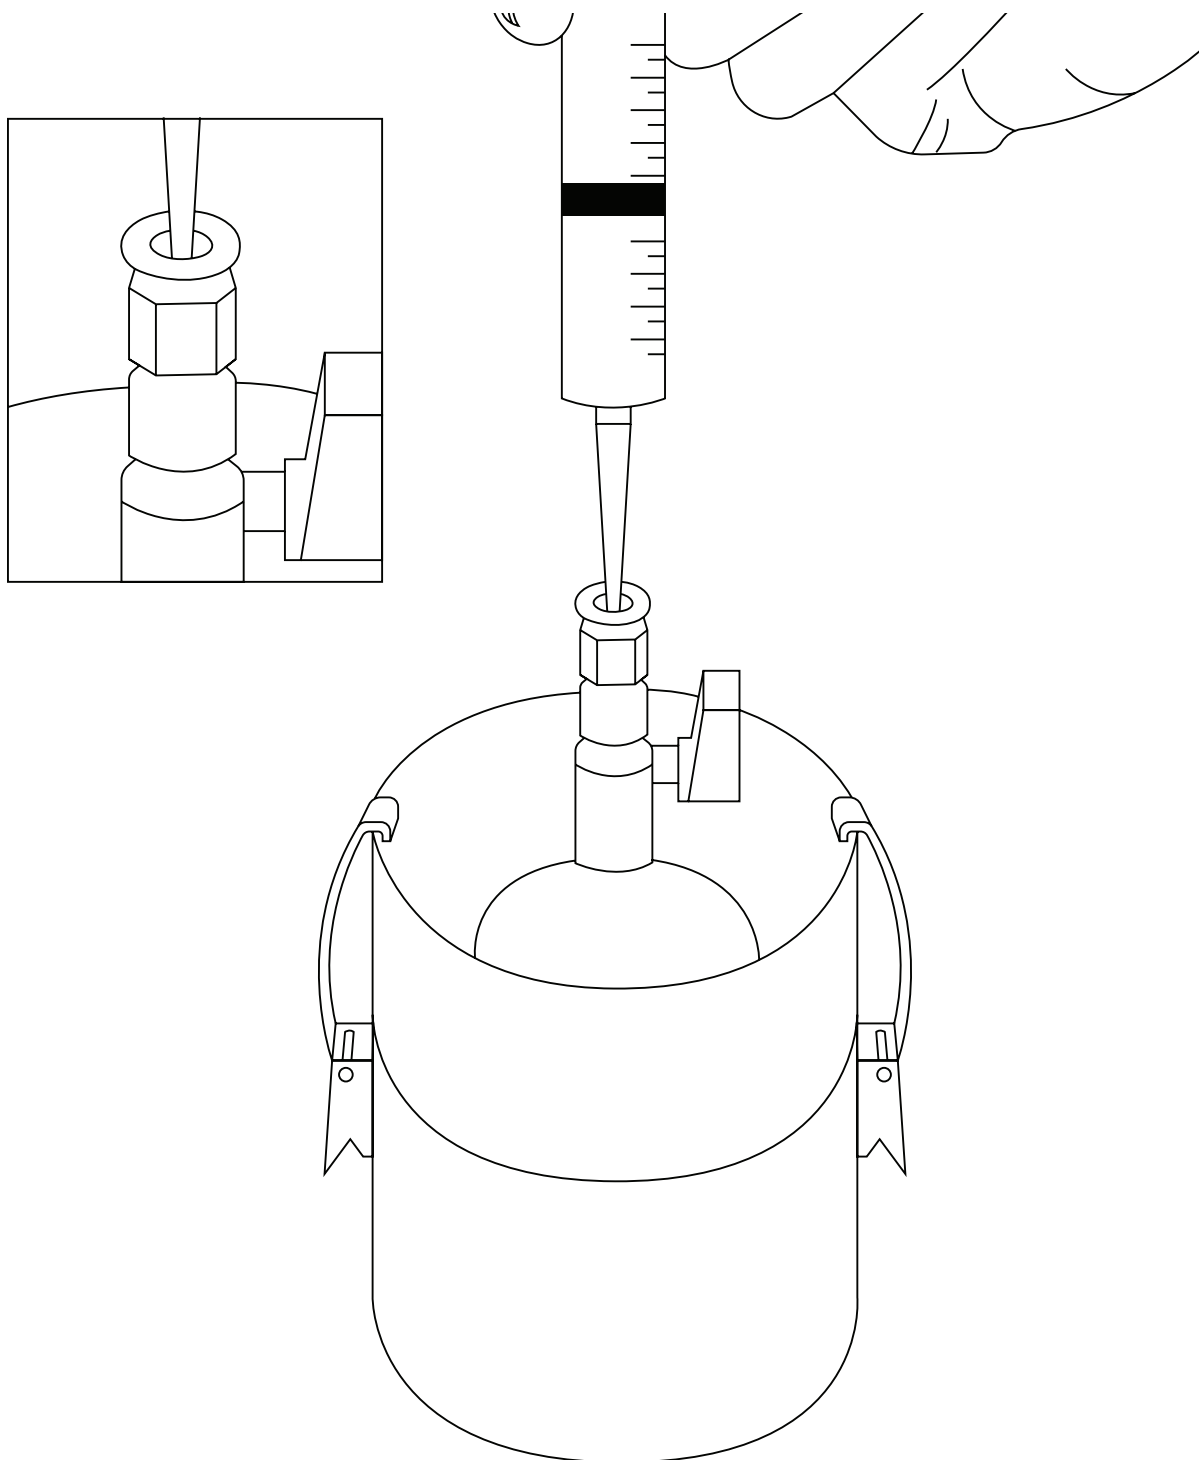

Figure 13 Fill the refilling adapter
3. Use 23 mL of deionized water, free of bubbles or air, to fill the refilling adapter with the droplet syringe (Figure 13).